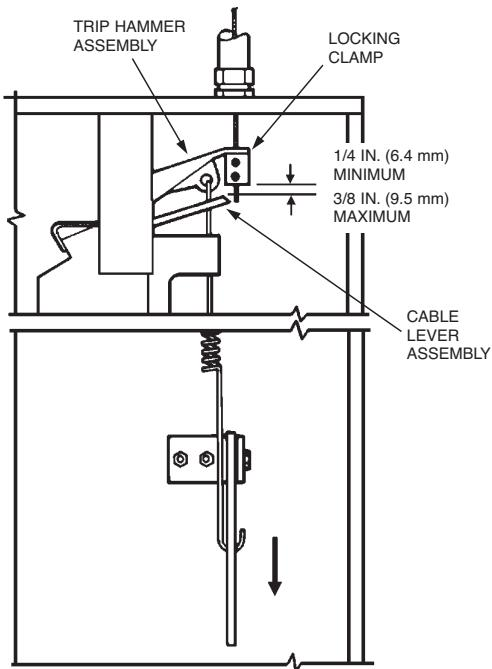

FIGURE 7
- 28. Inspect the base of the wire rope locking clamp to make certain that there is a minimum of 1/4 in. (6.4 mm) and a maximum of 3/8 in. (9.5 mm) clearance between the base of the trip hammer locking clamp assembly and the cable lever assembly. See Figure 7.